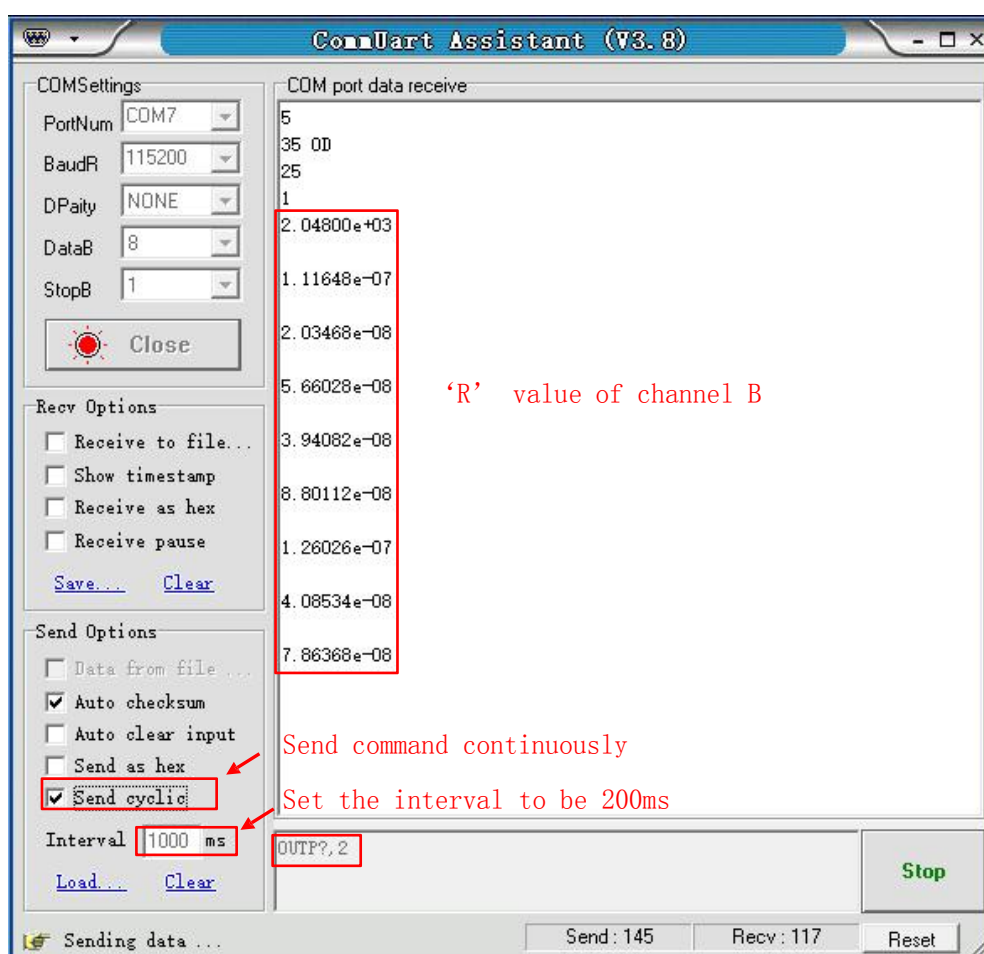
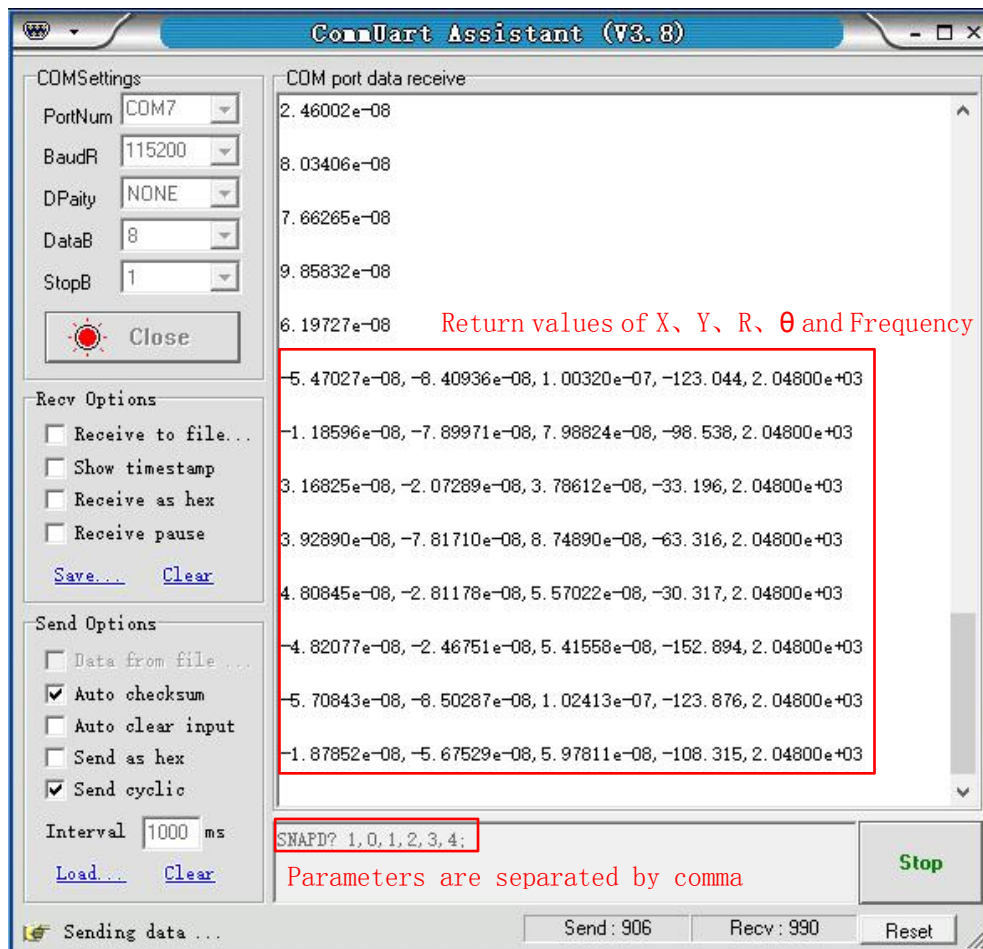

Fig.107 Read the single R value continuously
Fig.108 Read the Values of X, Y, R, θ and Freq continuously
(4) If you want to read the values of <X>, <Y>, <R>, < θ > and Freq continuously, you can set the transfer interval time as Fig.107 and Fig.108.